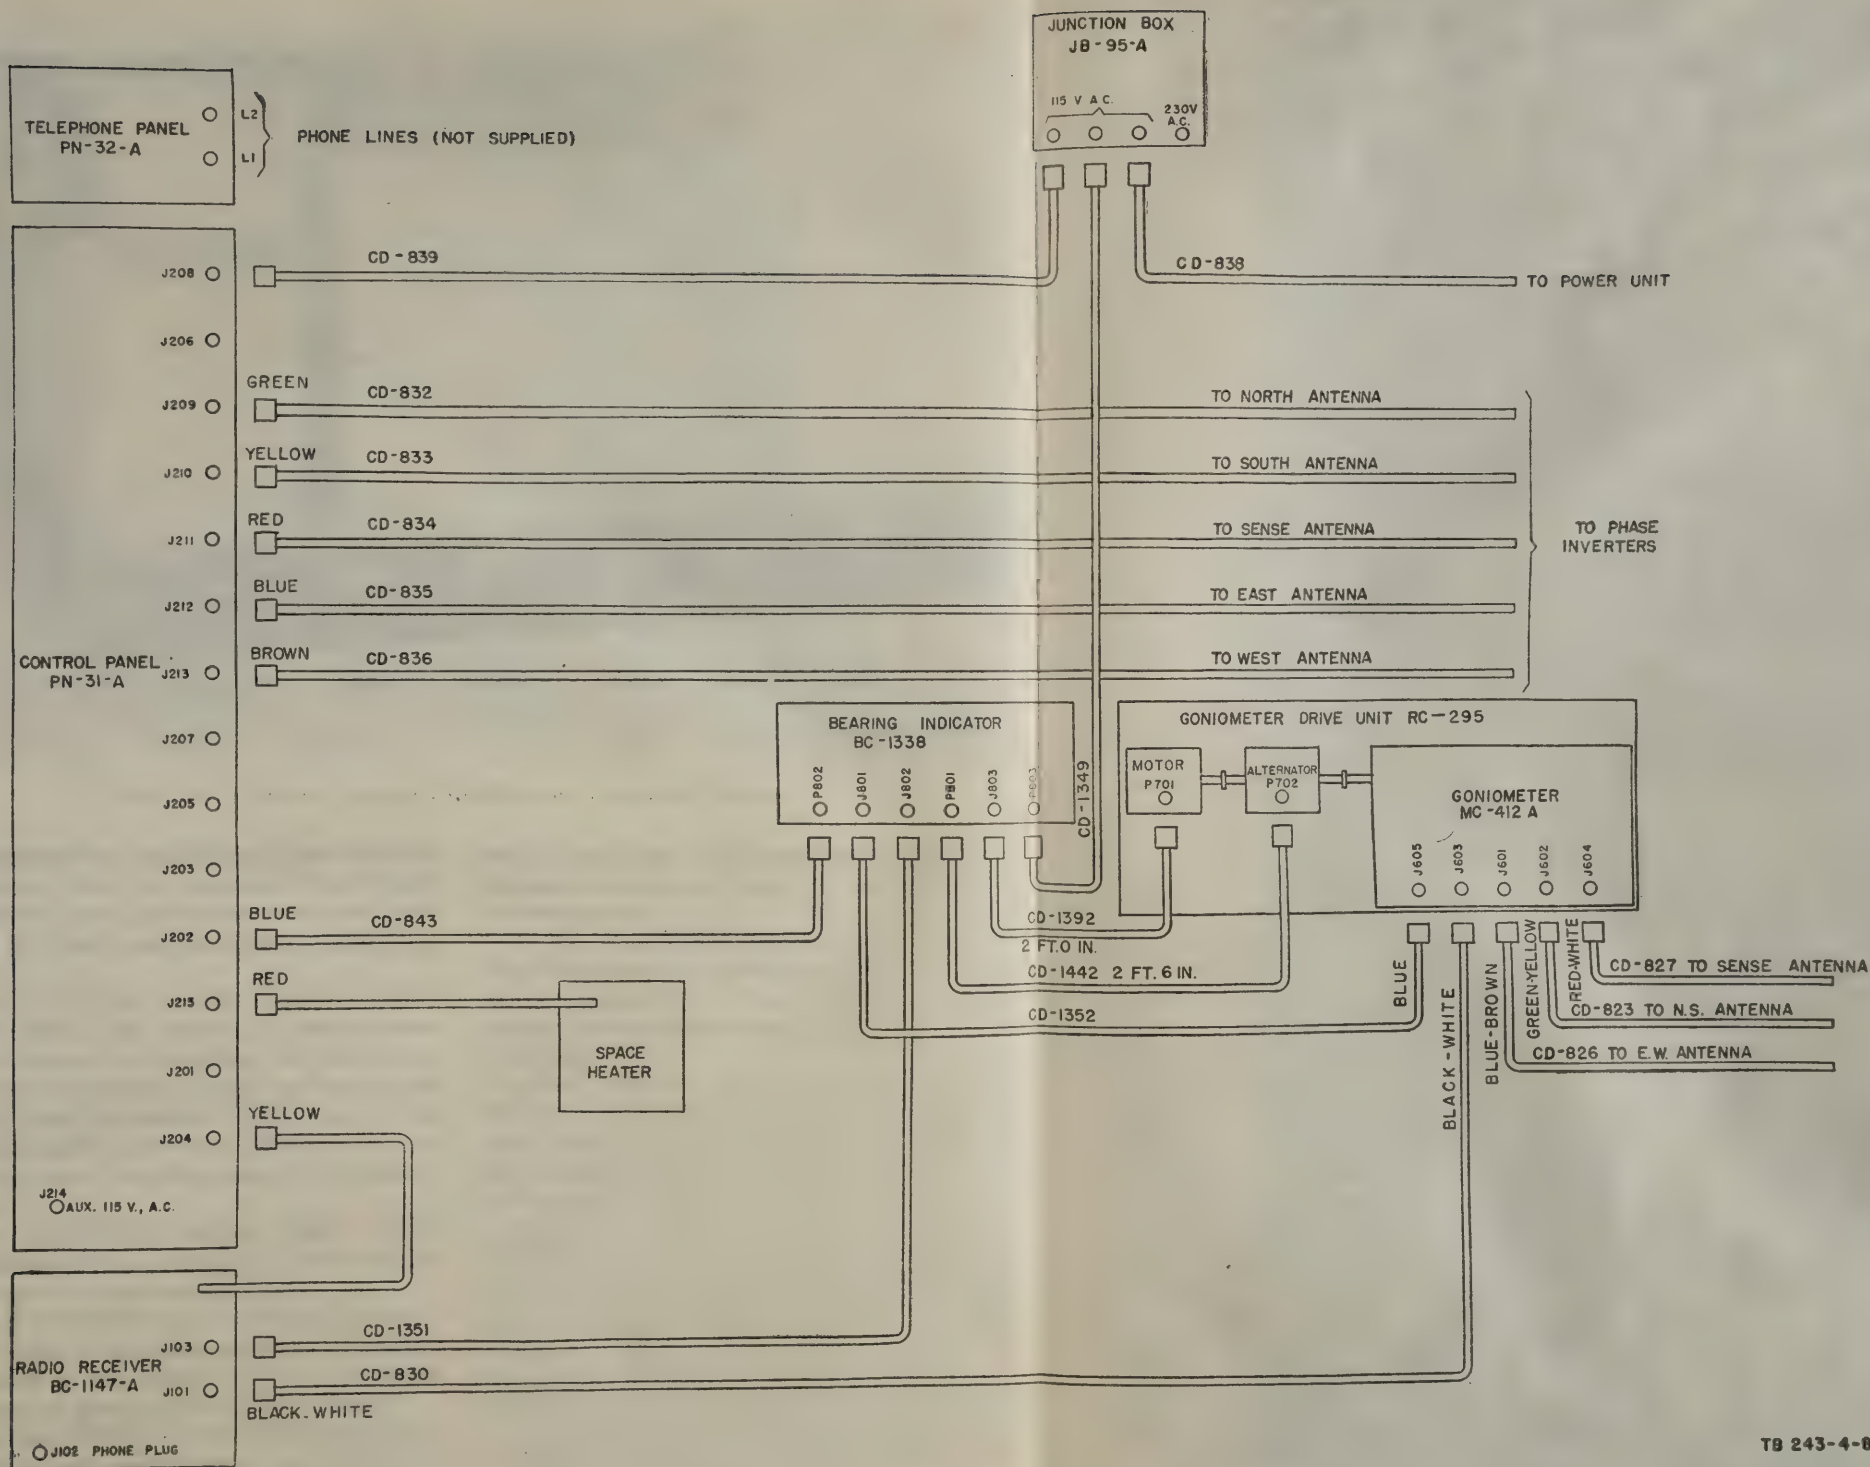

Figure 192. Bearing Indicator Kit MC-551, typical cording diagram.
*Note.* The typical cording diagram shown in figure 192 should *not* be used for installation. Use the specific cording diagram on rear cover of Chest CH-300, of the equipment being installed.